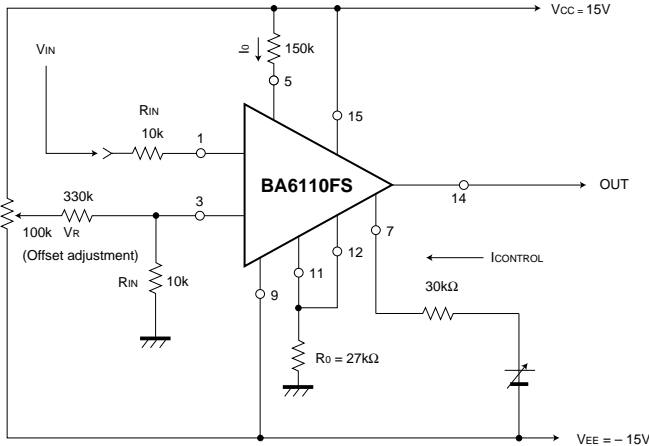

Fig.3 Voltage-controlled amplifier (electronic volume control)
This is the differential negative input pin. It is grounded with roughly the same resistance value as that of the positive input pin. The offset adjustment is also connected to this pin. Make sure a sufficiently high resistance is used, so as not to disturb the balance of the input resistance (see Figure 3).
(1) Fig.3 shows a voltage-controlled amplifier (AM modulation) as an example of an application of the BA6110FS.